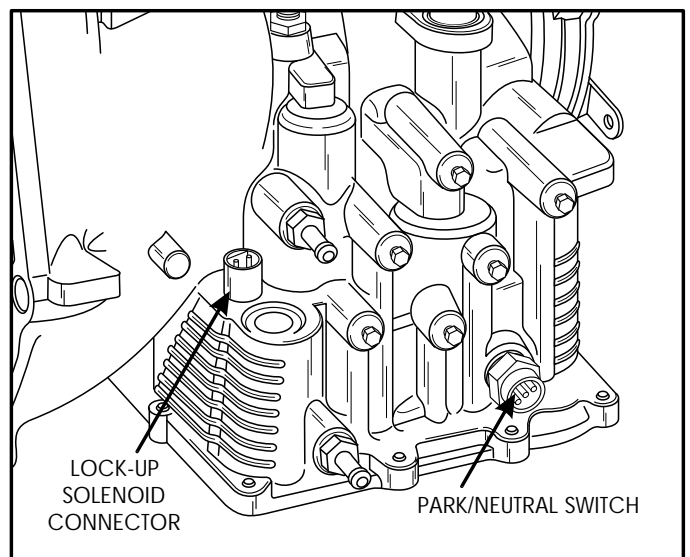

Figure 245
12. Install the Neutral/Start switch into transaxle case and torque to 34 N·m (25 ft.lbs.). Refer to Figure 245.